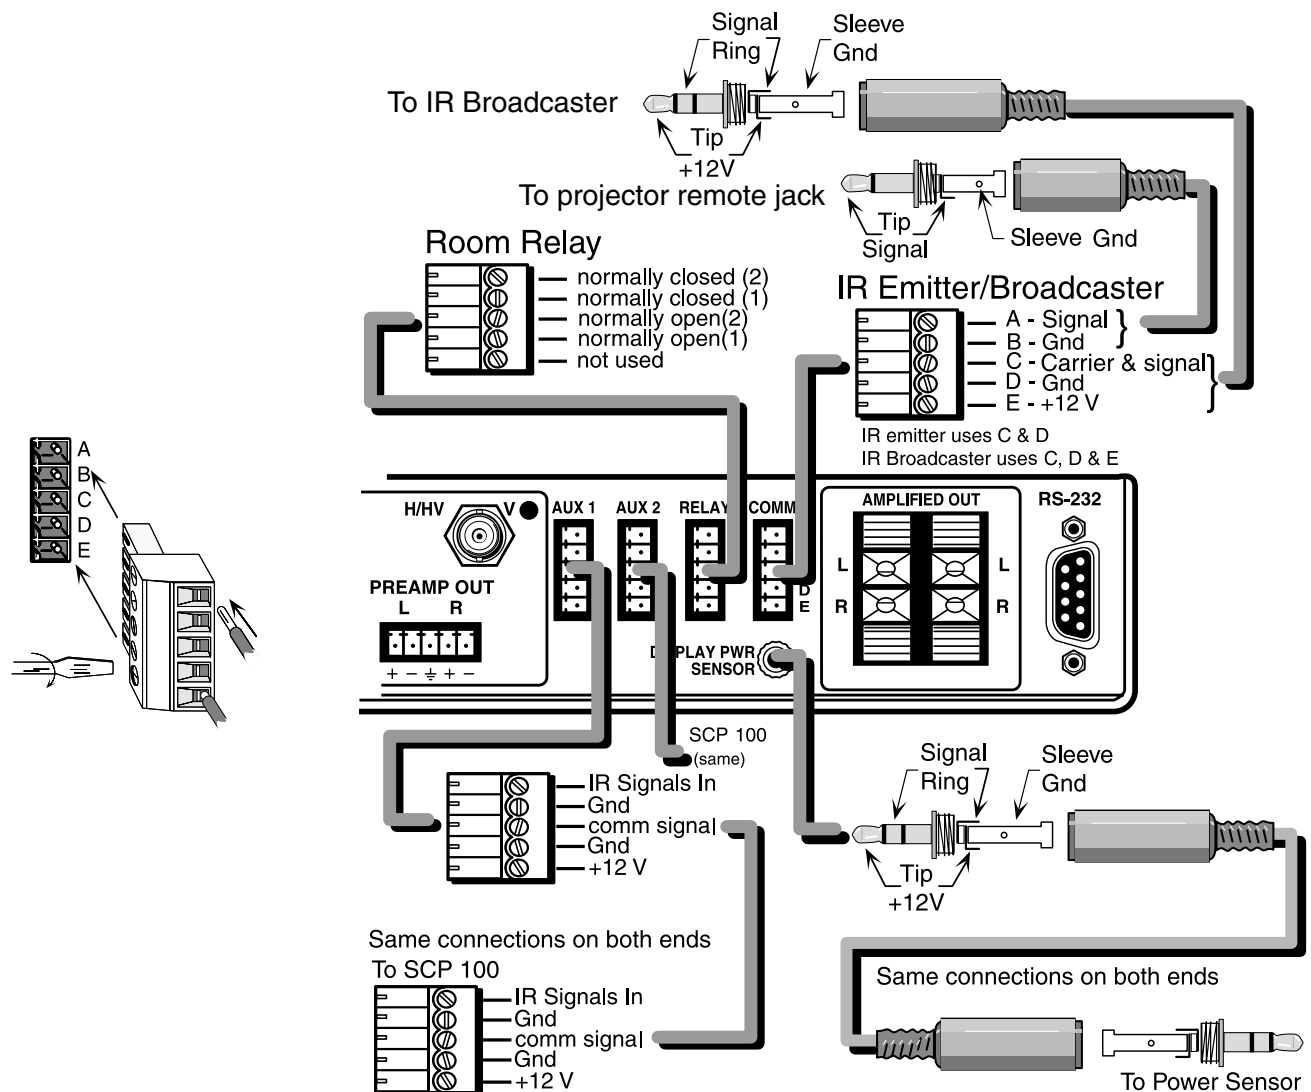

Figure 2-7. System 5 accessory and option connections.
The System 5 can have several options and accessories that use connectors in the rear panel. Figure 2-7 shows four of the captive screw connectors for the Room Relay, IR Emitter or IR Broadcaster and the two SCP 100 remote panels. There is also one round connector for an optional Display power Sensor. Each accessory product has its own user's manual and is also summarized in Appendix B of this manual.
All connectors are provided. Cables are the responsibility of the installer. The two standard accessories described in this section are the Infrared Emitter and the Room/Relay custom control. Figures 2-7, 8 and 9 show accessory connections. Optional devices (SCP 100, the IR Broadcaster and the Power Sensor) are also covered in their separate user's guides and are summarized in Appendix B of this manual.
- 1a. Connect the IR Emitter (included) to transmit all of the "learned" IR commands to the projector. The IR Emitter includes a black cable with two wires, one has a white stripe. Insert the wire with the white stripe into the carrier/signal pin (C) and the solid black wire to either ground contact (B or D).
- 1b. If a wired remote can be plugged into the projector, that cable will use pins A (signal) and B, as shown in Figure 2-7.